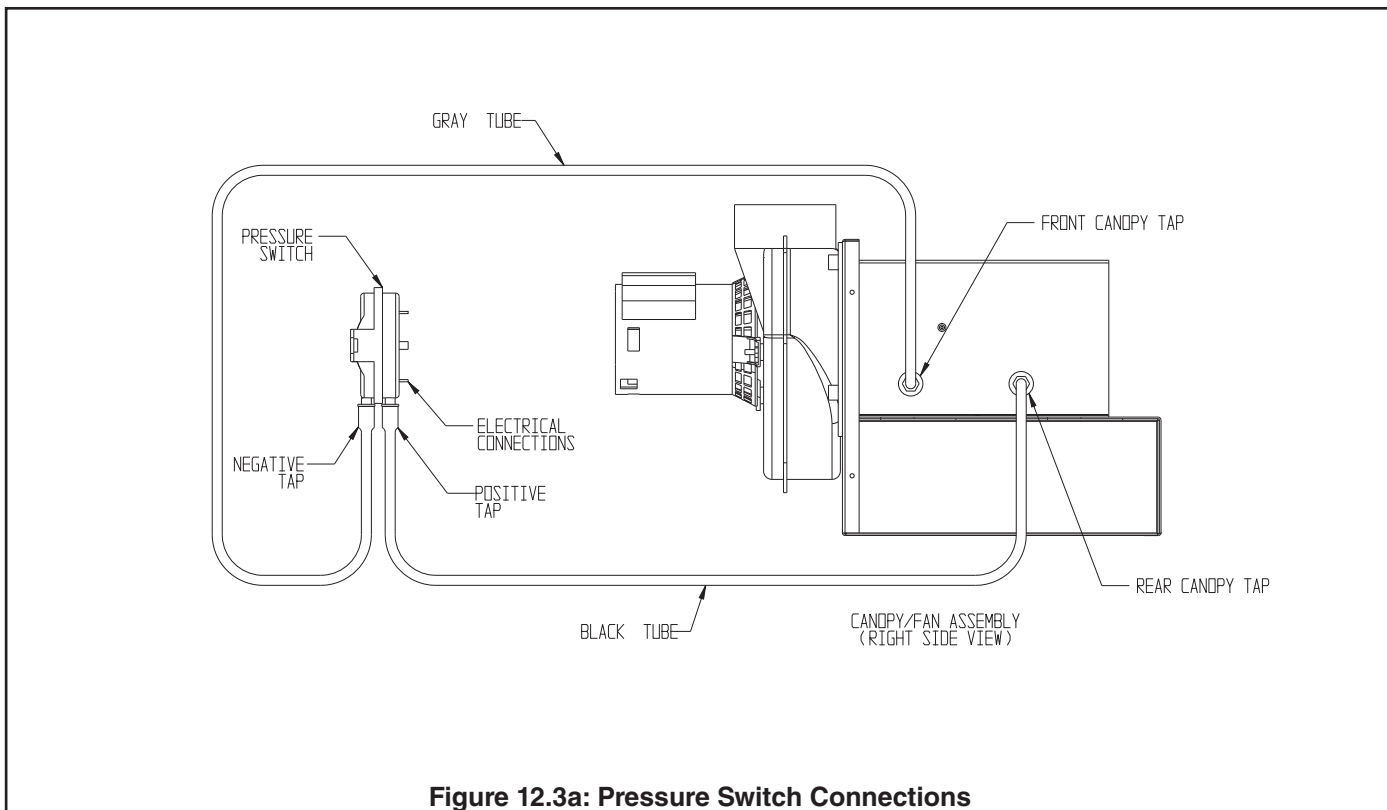

Figure 12.3a: Pressure Switch Connections
1. Pressure Switch – This boiler is equipped with a differential pressure switch which makes when there is adequate flue gas flow through the boiler. This switch measures the pressure drop across an orifice plate inside the flue collector; the higher the flue gas flow through this plate, the higher the pressure drop. The N.O. contacts on the pressure switch make, allowing the boiler to fire, when the pressure drop across the flue collector orifice plate switch exceeds the “make setting” shown in Table 12.1. Once the switch is made, the boiler will fire as long as the pressure at the switch is above the “break setting” shown in Table 12.2. The pressure at both pressure switch tapings is actually below atmospheric (“negative”) with the pressure at the front flue collector tap being the more negative of the two pressures. Figure 12.3a shows the pressure switch connections.